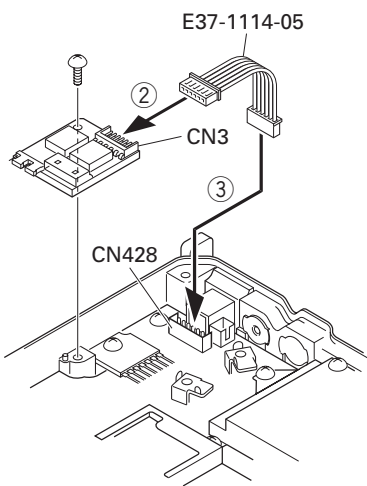

Fig. 3-2
3. Remove the 6-pin jumper connector inserted in the TX-RX unit (B/3) connector (CN428). (①)
4. Insert one side of the lead wire with connector (E37-1114-05) into the relay unit connector (CN3) (②) and the other side into the TX-RX unit (B/3) connector (CN428) (③).
5. Place the relay unit at the position shown in Figure 3-2 and secure it to the chassis with a screw.
6. Remove the cap on the rear of the chassis by pushing it from the inside with your finger. (④)
7. Pass the 6-pin connector of the cable (E37-1113-05) through the chassis hole (⑤) and insert the bush into the chassis hole.
8. Rotate the bush of the cable 90 degrees counterclockwise as viewed from the rear of the chassis. (⑥)
9. Insert the 6-pin connector of the cable into the connector (CN2) of the KAP-2 relay unit. (⑦)